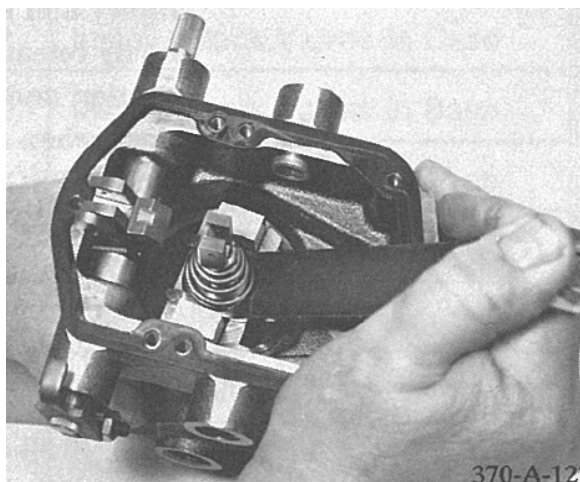

Figure 4-5. Removal of Speeder Spring
11. Wedge the pilot-valve wrench (Woodward part number 370109) between the coils of the speeder-spring assembly and spring seat. Hold the spring fork and bend spring towards the open end of the bottom coil. At the same time, turn the spring to disengage the coil from the seat lip (see Figure 4-5). Remove the spring fork and spring from the case.